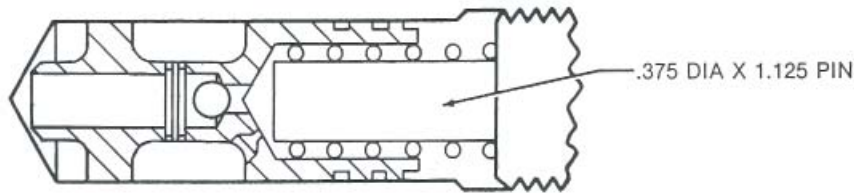

Figure 2 Blocking Pin
- i. Install .375 dia. x 1.125 [9.525 x 28.565 mm] pin inside modulator regulator spool. This blocks valve shut. See Figure 2.